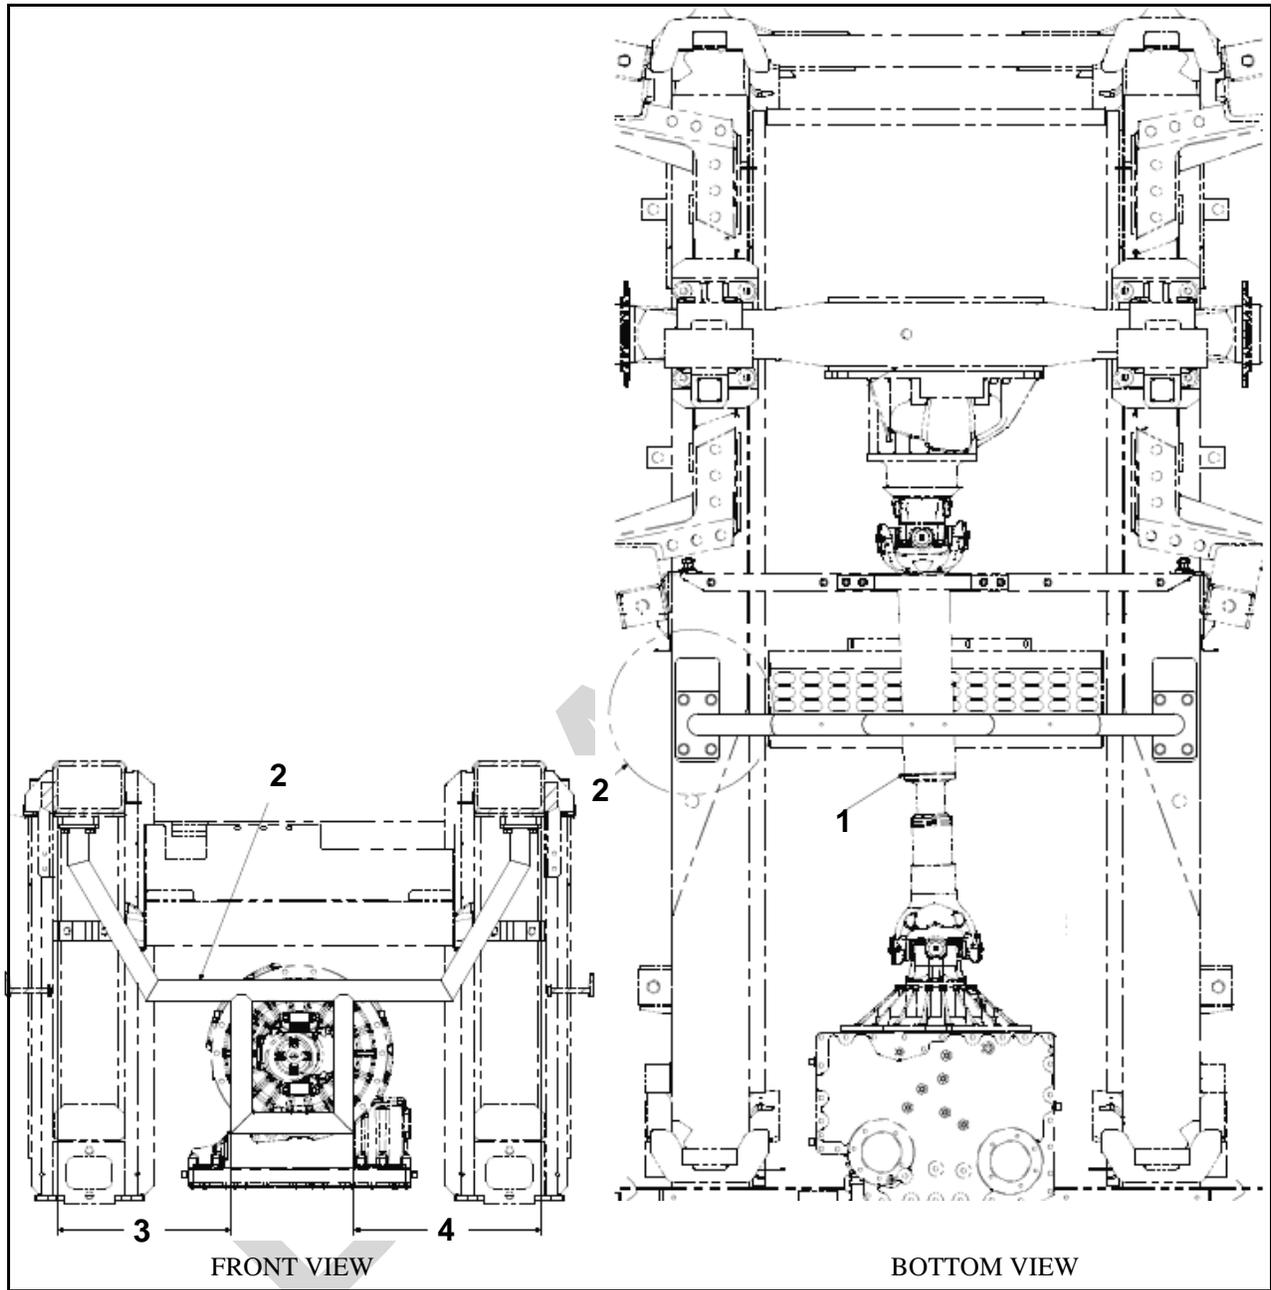

Figure 8. Hoop assembly installation.
18. Orient the driveshaft hoop assembly, p/n 03-33-2711, as shown per the views and dimensions provided in Figure 8.